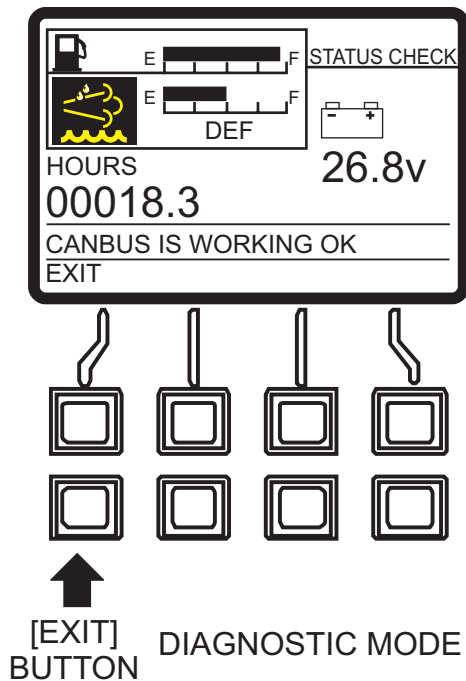

Figure 87. Status Check Screen (Diagnostic Mode)
2. Exit the Status Check Screen by pressing the **[EXIT]** button (Figure 87).